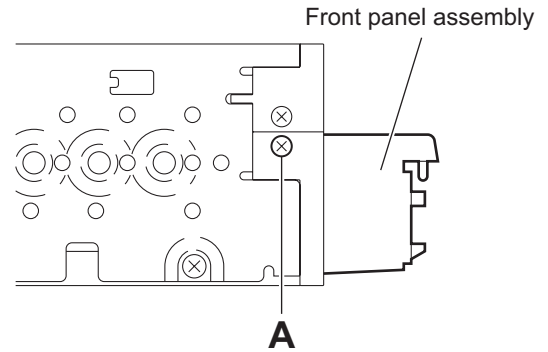

Fig.3
3.1.3 Removing the front panel assembly (See Figs.3 to 5)
- (1) From the both sides of the main body, remove the two screw **A** attaching the front panel assembly. (See Figs.3 and 4)